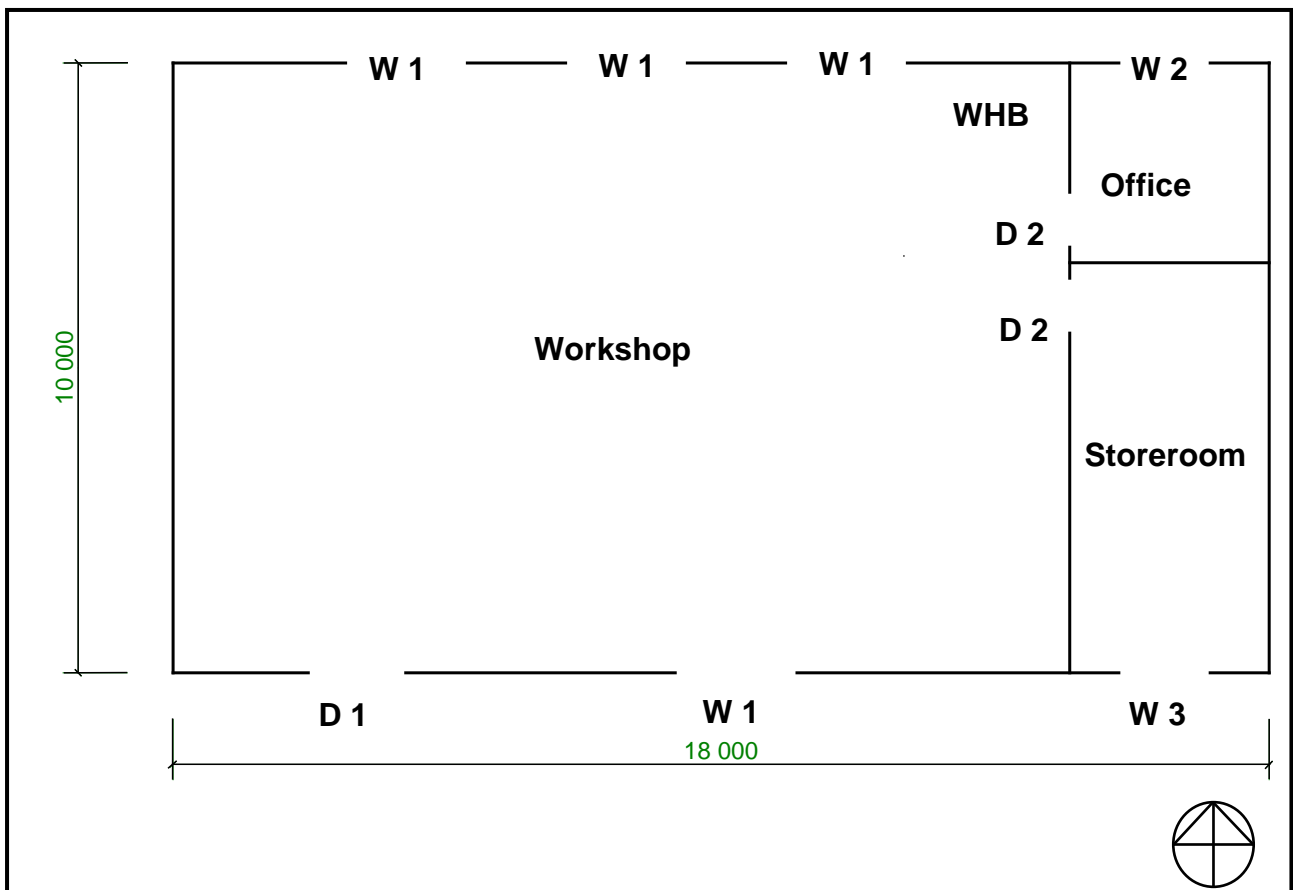

FIGURE 6.2
6.2 FIGURE 6.2 below shows a line diagram of a floor plan of a Civil Technology workshop.